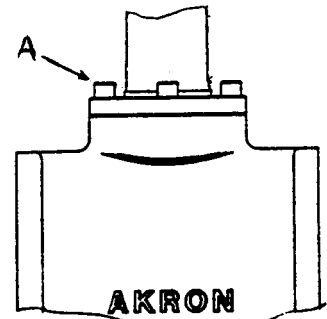

Fig 2
- Remove the four hex head screws A, Fig 2, and discard them. They are not needed.